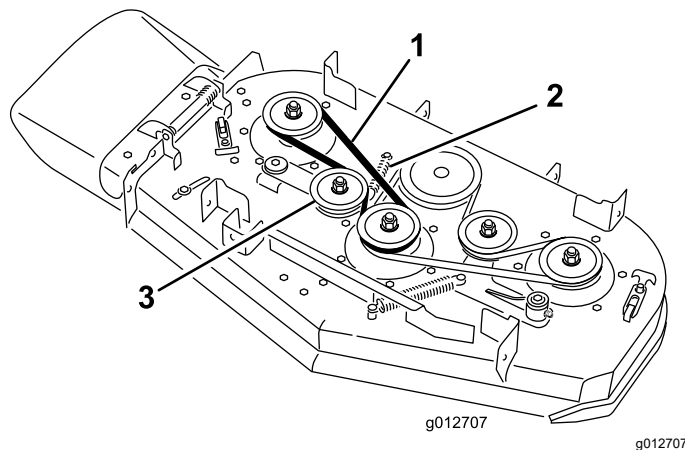

Figure 64
5. Remove the right mower-deck belt (Figure 64).
7. Install the previously removed or a new mower belt around the right deck pulleys and idler pulley (Figure 64).